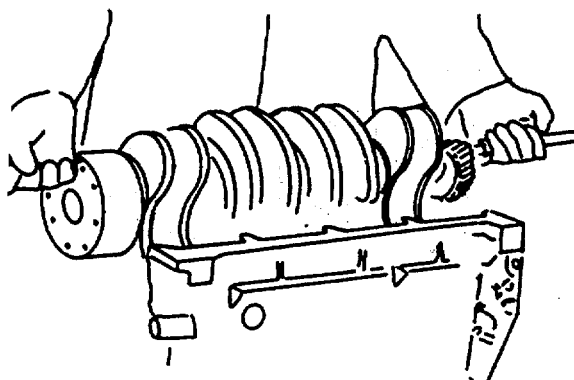

FIGURE 4-58. Removing Crankshaft.
- d. Lift the crankshaft and gear from the cylinder block as shown in FIGURE 4-58.